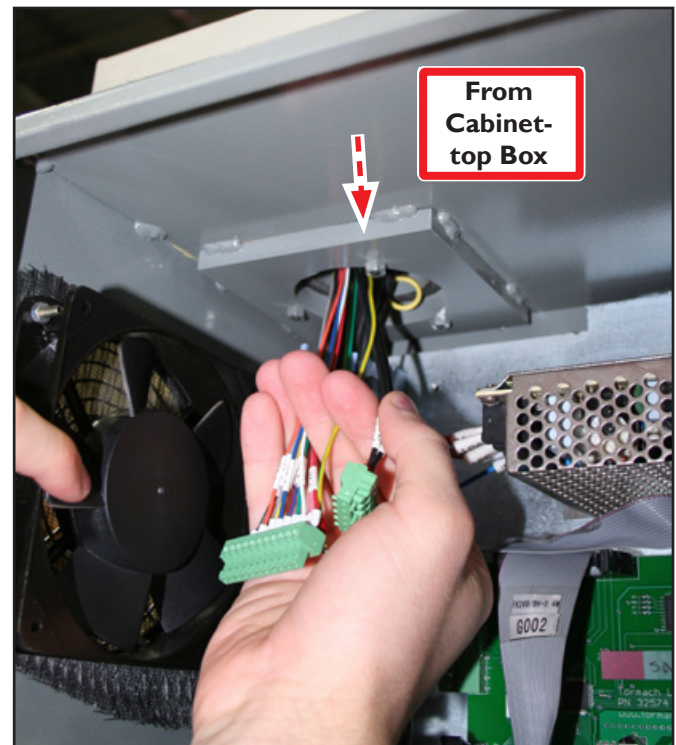

Figure 14
3. Pull harness through far enough that the New Cover Plate reaches the Cabinet-top Box (see **Figure 14**).
11. Carefully feed Turret Power and Encoder wires down into Cabinet-top Box (see **Figure 14**). Pull wires through into the electrical cabinet far enough to reach all connections.